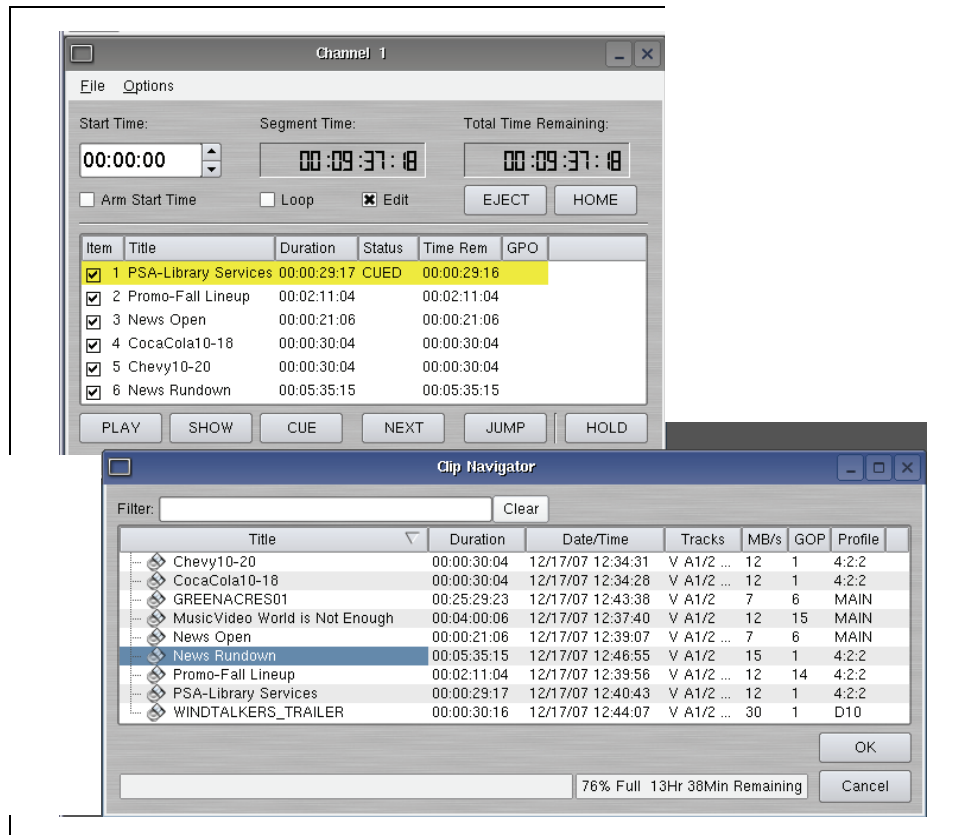

Figure 22 - Channel 1 Playlist with Clip Navigator
1. Change the transport for Channel 1 to the **Playlist View**. Click **FILE > PLAYLIST** in the Channel 1 transport pulldown menu. The window of Figure 22 appears.